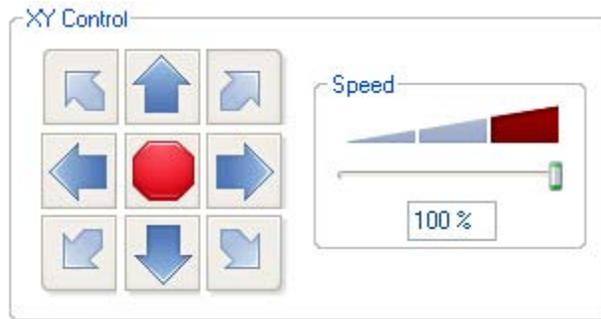

Figure 9. Stage control interface.
- 10) Use the stage movement controls (Figure 9) to position the desired area of the sample under the crosshairs in the optical viewing window.